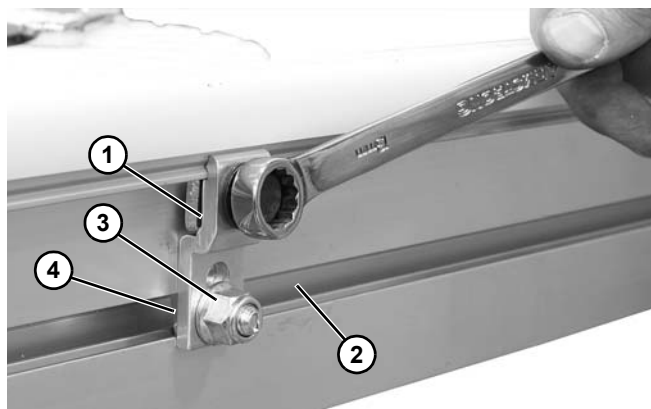

Figure 84
- Install clip assembly (**Figure 84, item 1**) into side rail channel (**Figure 84, item 2**). The end clips should be no greater than 12" from the end of the conveyor.
*Make sure that the studs (**Figure 84, item 4**) rotate inside the channel and engage with the conveyor.*
- Fasten clip (**Figure 84, item 1**) to conveyor with nut (**Figure 84, item 3**) on stud.